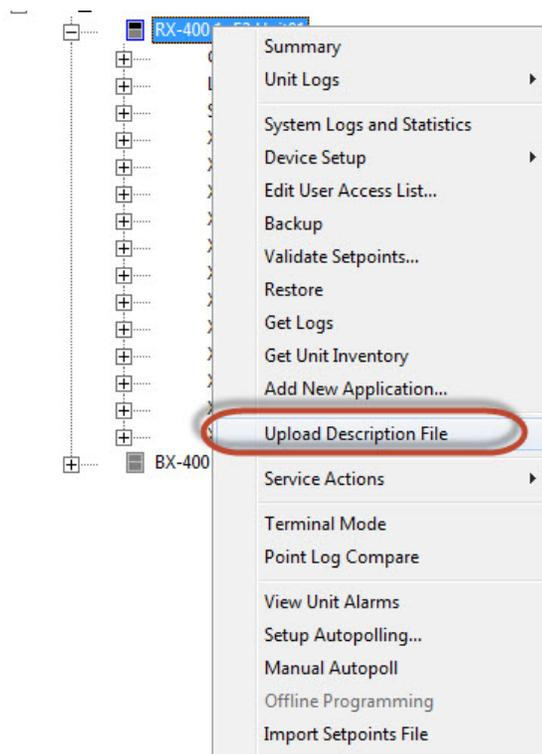

Figure 1 - Upload .dsc File
2. After logging in, press **Alt + T** and check that the **MAC Address** field on the TCP/IP screen (Figure 1) matches the MAC address in the report given to you from Copeland. The license key will not work unless the MAC address matches exactly. If the MAC address matches, go to step 3.